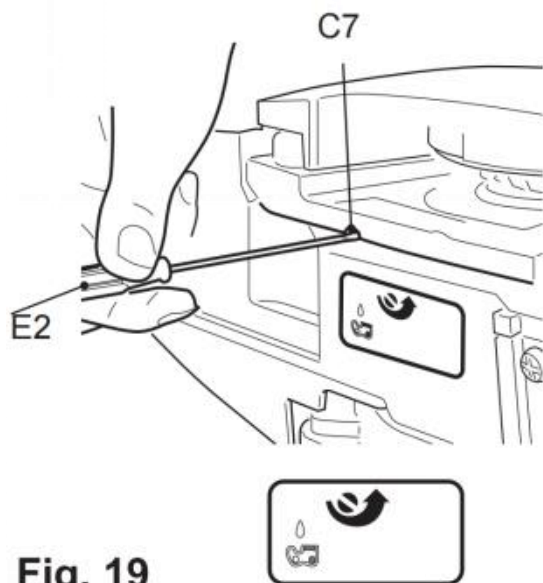

Fig. 19
4) Turn the adjustment screw (C7) of the oiler on the bottom of the product to adjust the chain oil flow with the multi tool (E2) (Fig. 19).